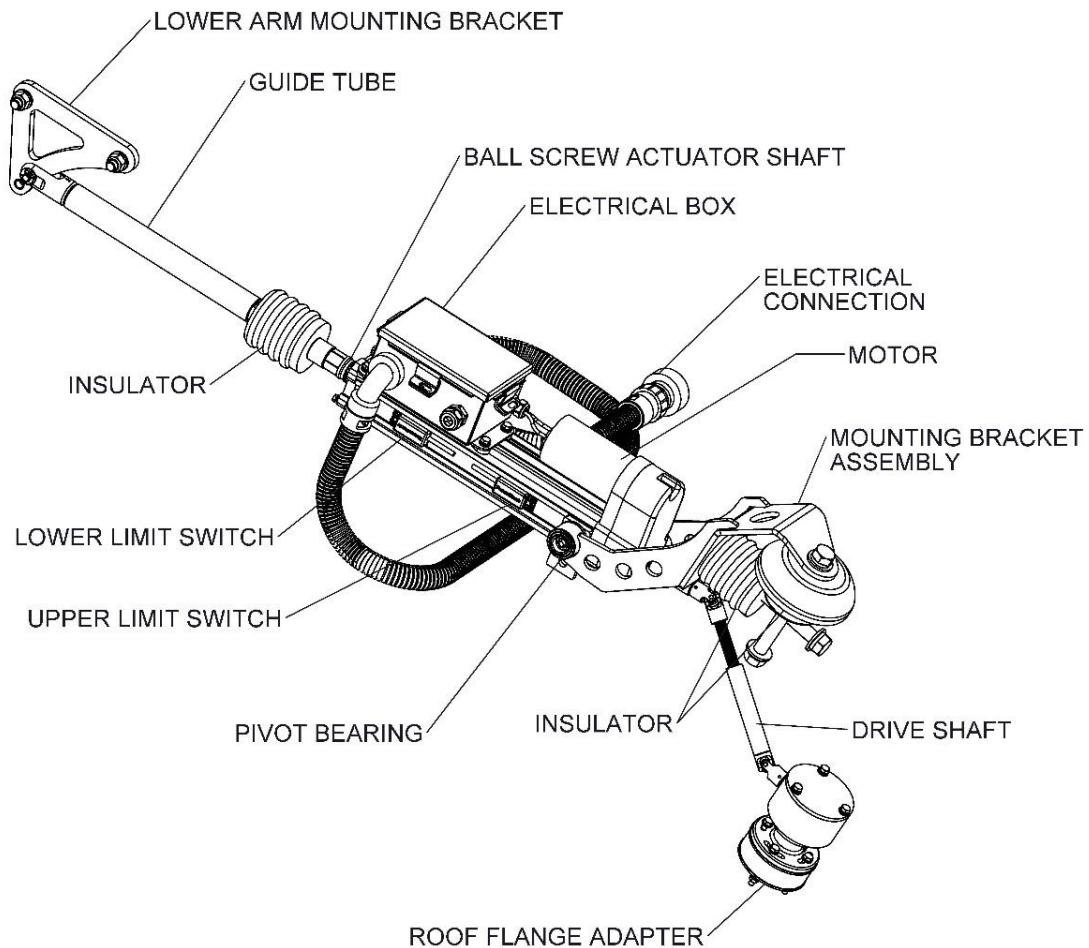

Figure 4-6: Spindle Drive
1. Remove dirt and grease from the motor, electrical box, limit switches, and actuator shaft. The actuator shaft should have a clean chrome finish. See Figure 4-6.